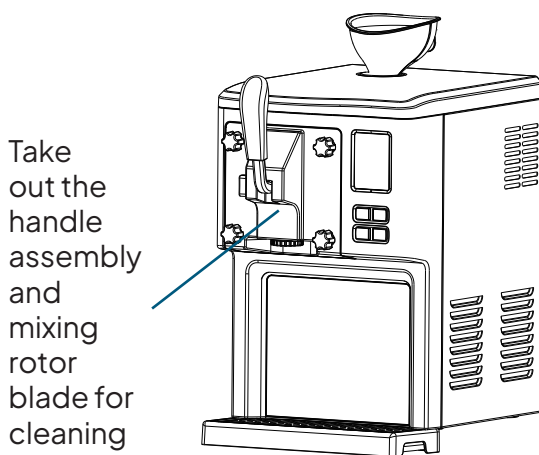

Figure 1
1. Loosen the four locking nuts counterclockwise and take out the handle assembly, as shown in Figure 1.
2. After the water is drained, loosen the nut as shown in Figure 1, remove the handle components and clean the mixing rotor blade separately.
1. Insert ③ into ① as shown in Figure 1.